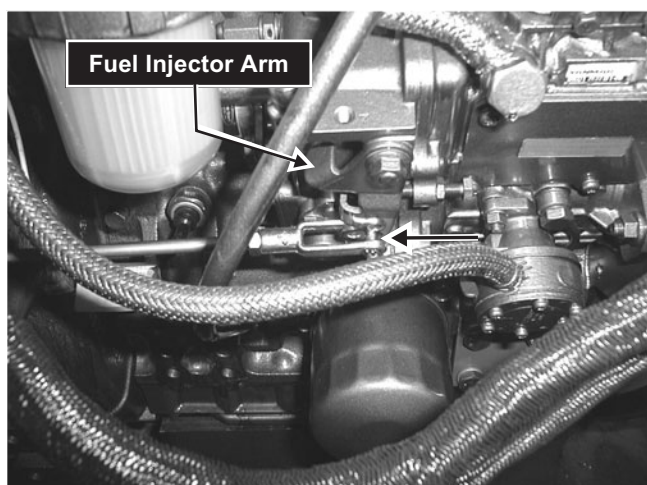

Fig. 6-52 Location of throttle rod connection to the engine.
9. Raise engine cover and open rear grille. Locate throttle rod connection on rear lower left of engine. **Fig. 6-52**